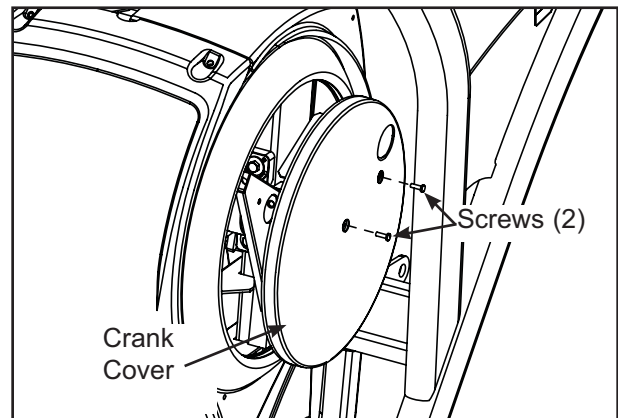

Figure 3
A. Place new crank cover (B) in position.
B. Using a Phillips screwdriver, attach the two screws (A) securing the crank cover in place. See Figure 3.